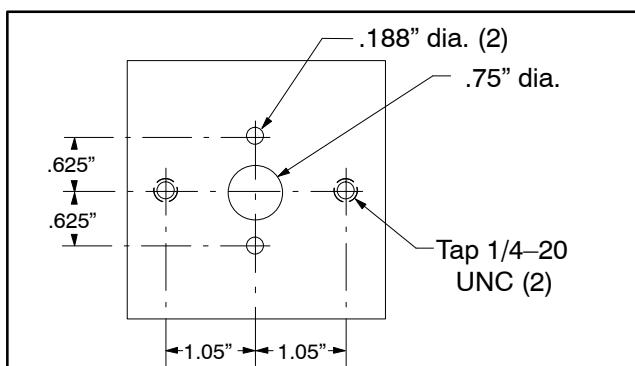

Figure 46
A. Using a 1/4" thick, 3" X 3" square piece of steel, make a seal removal tool as shown in Fig. 46.